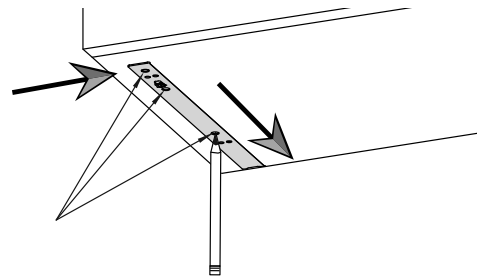

Fig. 17-3
- Use a pencil to mark the location of the 3 center holes as shown in fig. 17-3.